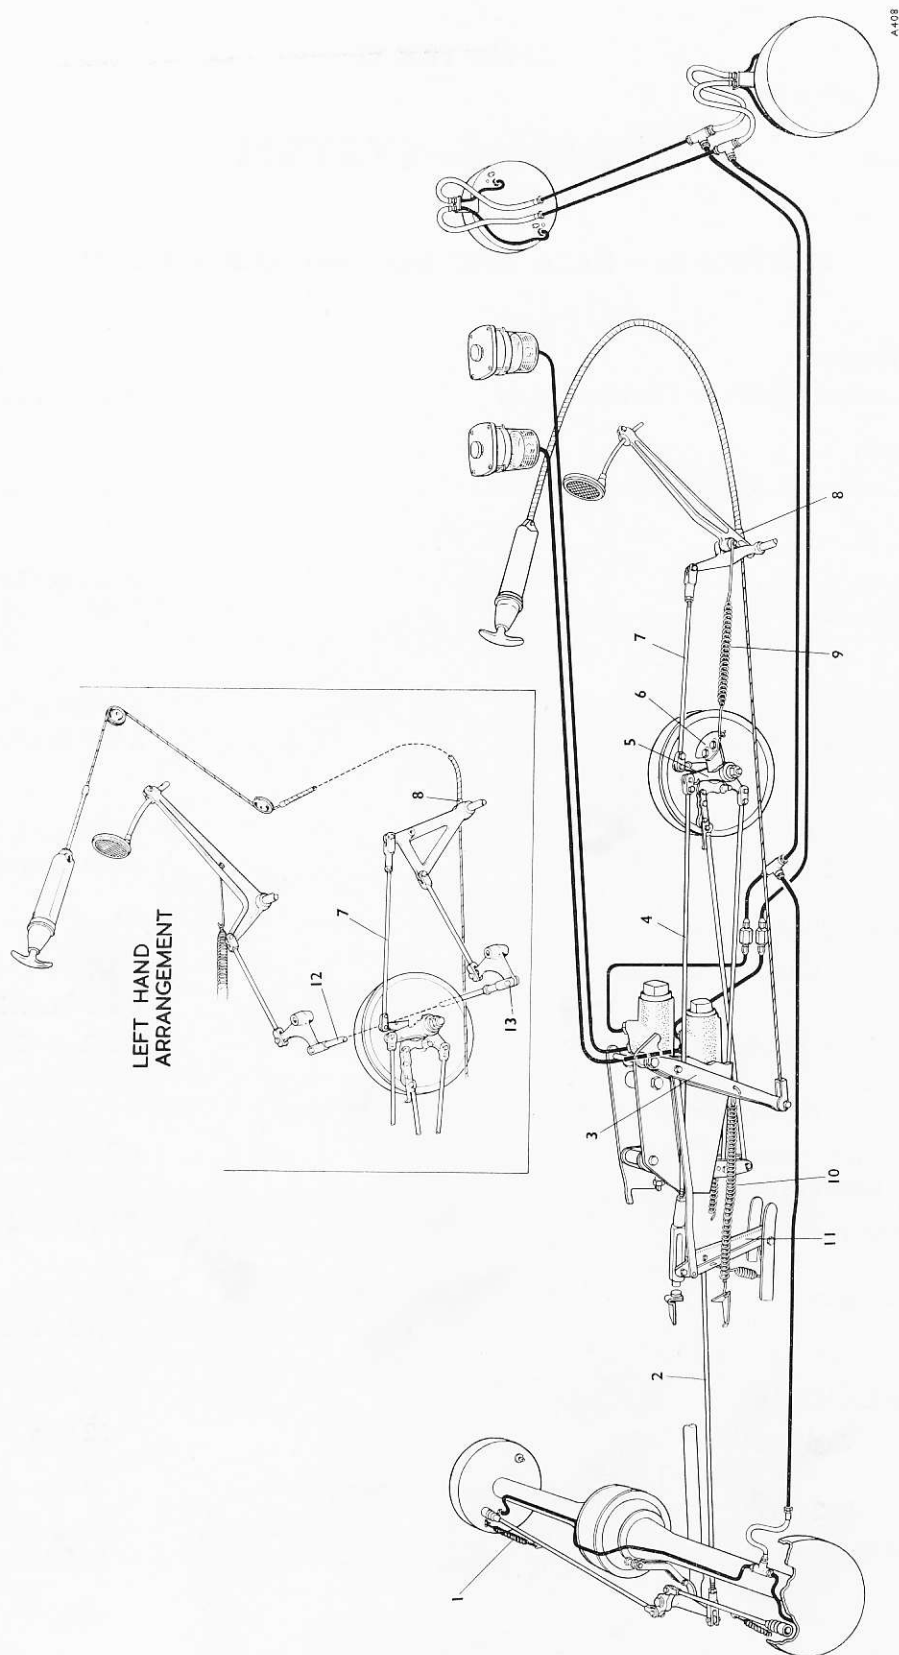

Fig. G1 Diagram — brake linkage
Figure G1 shows the brake linkage for a right-hand drive car with the arrangement fitted to left-hand drive cars shown inset. **On Phantom V cars** an extra relay lever is fitted between the intermediate linkage and the rear axle. The lever is fitted to a bracket welded to the right-hand rear member of the propeller shaft tunnel. The single rod (see 2, Fig. G1) fitted **on standard cars**, is divided into two rods **on the Phantom V**, the
A servo motor is mounted on the right-hand side of the gearbox and is driven at approximately one fifth of the propeller shaft speed. A pull-rod (see 7, Fig. G1) is operated by the brake pedal and is coupled to a lever on the servo motor shaft. The lever has inclined cams formed on the face of its boss which engage, through the medium of steel balls, with similar cams formed on the boss of a second lever (5). From the latter lever, rod (4) actuates the rear brakes through an intermediate lever which is pivoted on a bracket bolted to the crossmember of the frame and through rod (2) and the rear equaliser linkage, mounted on a bracket suspended from the rear axle.